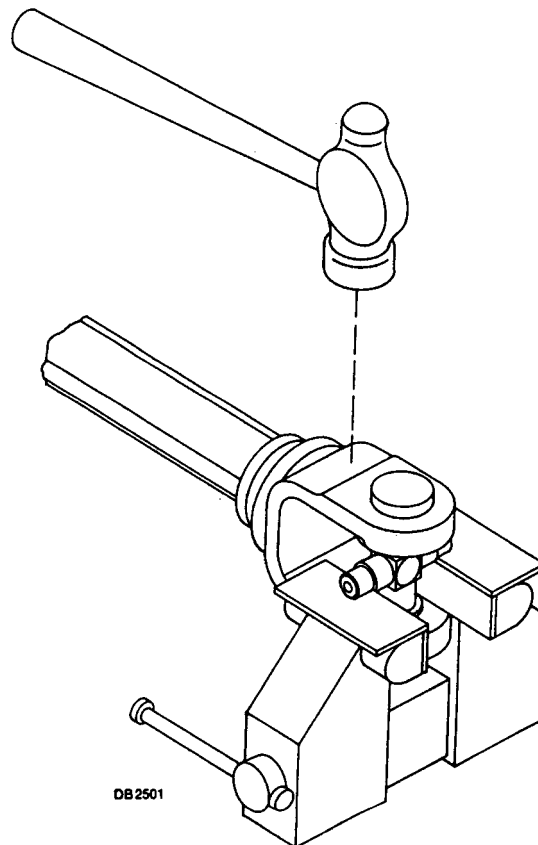

Figure 22
4. Place universal cross in vise as shown in figure 22 and tap on yoke to remove cup. Repeat step three for final removal. Drive remaining cup **out** with drift and hammer.